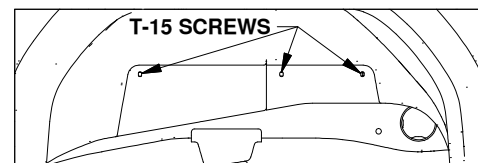

Figure A2: View looking into driver side wheel well.
8. **Un-attach the wheel well liners.** Check for the presence of flexible wheel well liners in the truck wheel wells. If present, three T-15 Torx screws will need to be removed so that the liners can be folded up and allow access to the frame, see Figure A2. Retain screws for later re-installation.